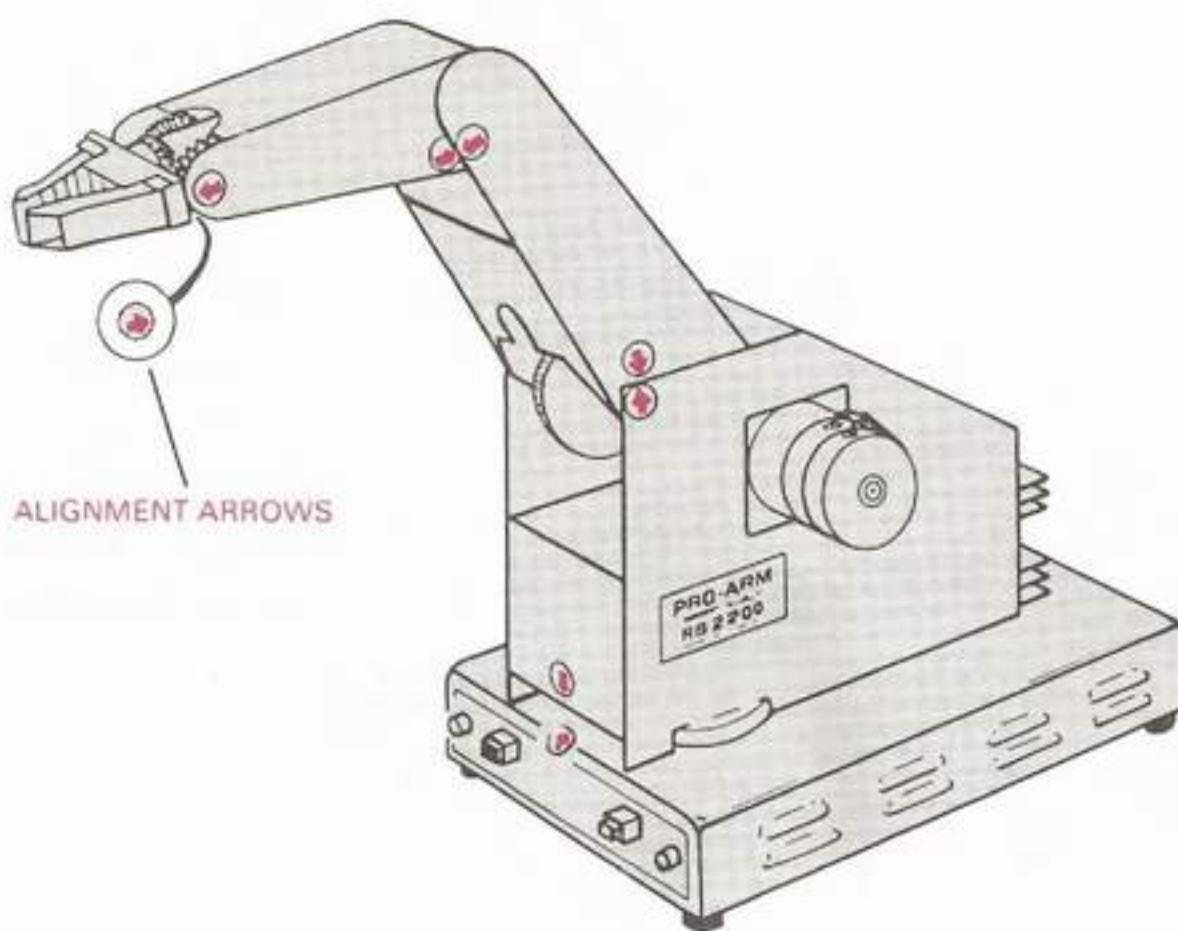
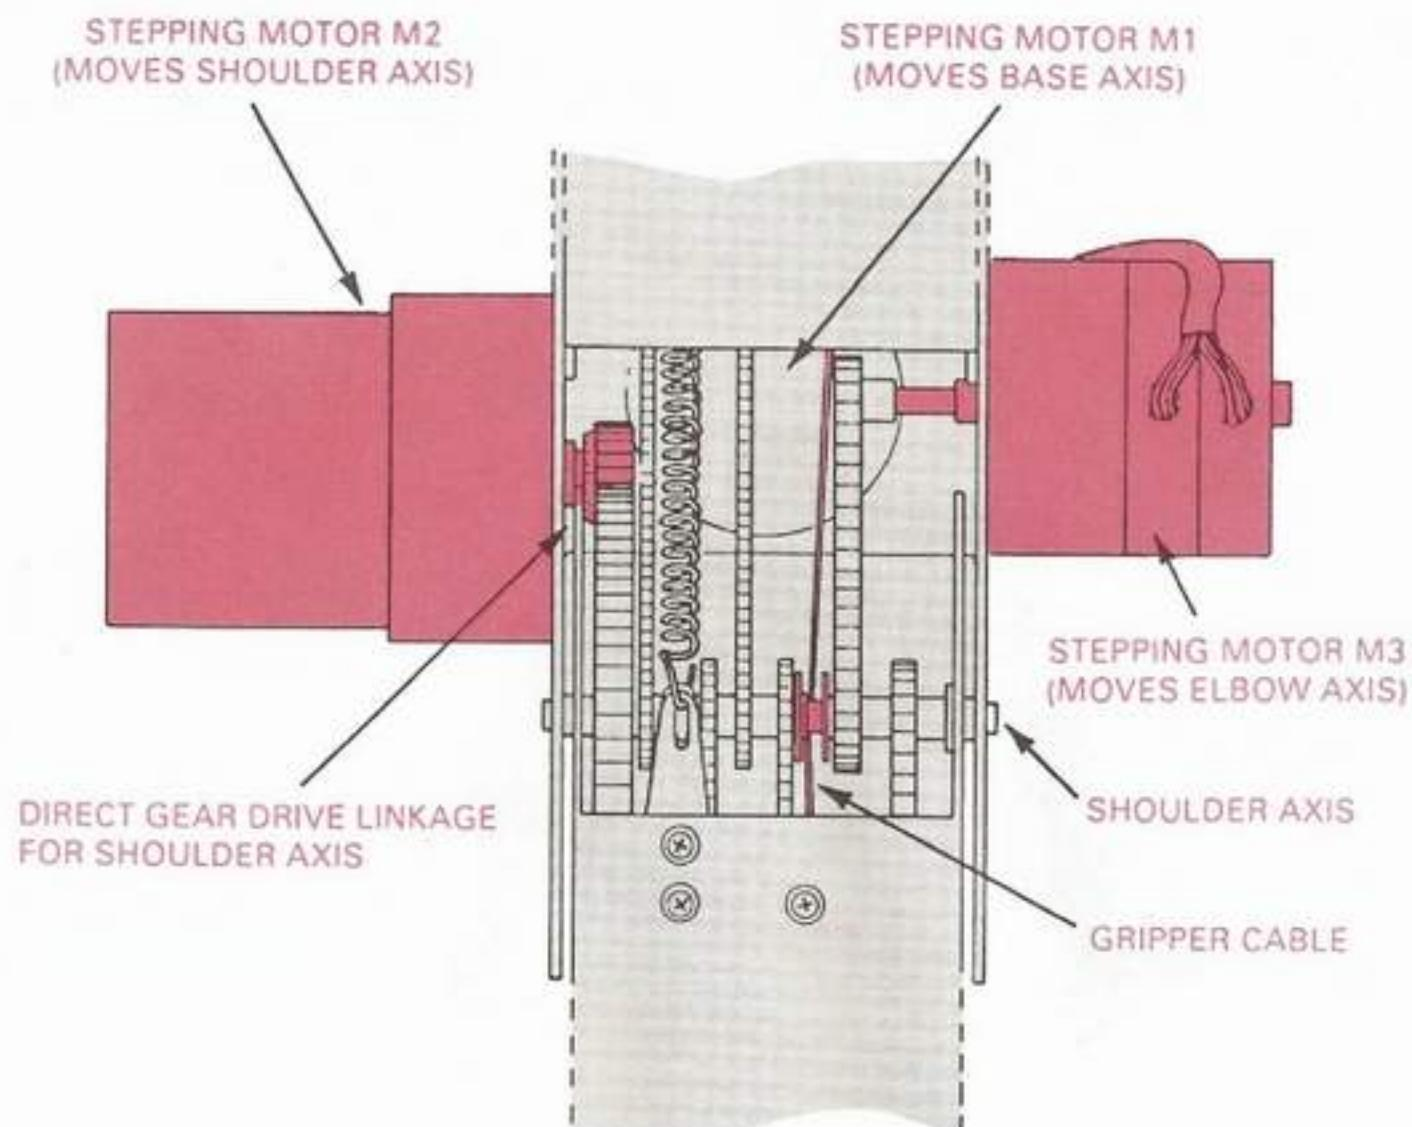
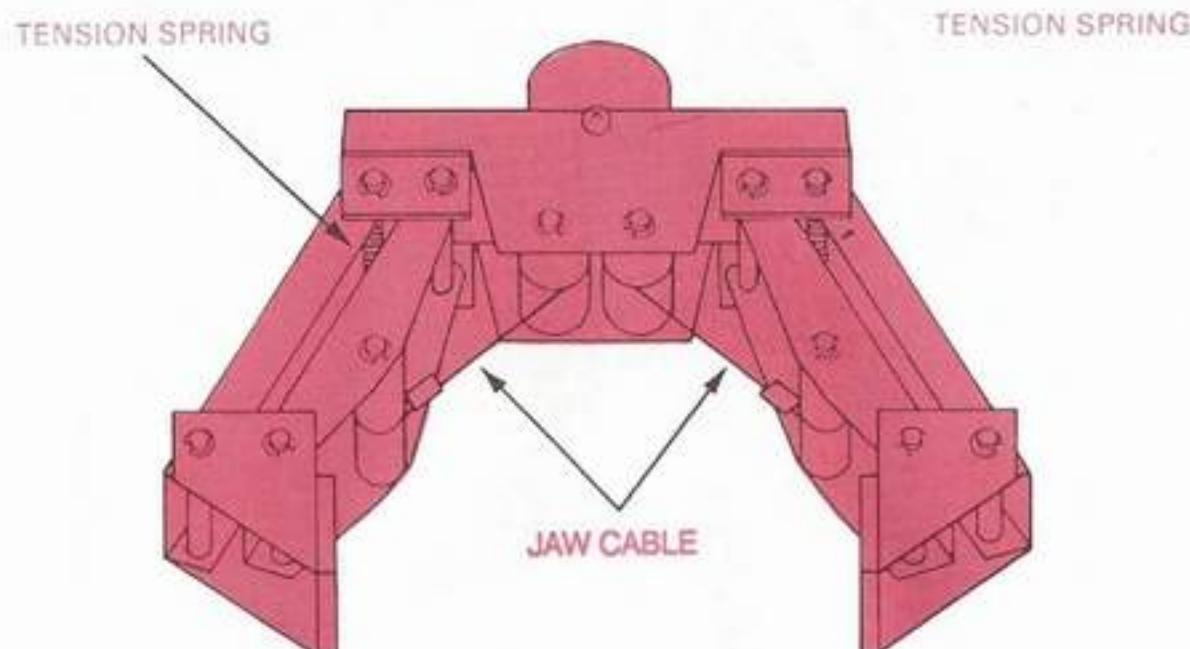

Fig. 17: Aligning the Arrows
Fig. 19: View from Top of Forearm
Fig. 20: The Pro-Arm's Gripper Assembly
Each time before using the Pro-Arm system, you must be sure that the arm is in its **"HOME"** or **"NEST"** position. This means that each axis must be aligned to its **"ZERO"** position. When the arrows on each side of a joint are aligned, as shown in Fig. 17, the axis is in its zero position. However, before you can learn how to zero position the axes, you must first learn how to move each axis.
- c. Compare the positioning of each axis with respect to Fig. 17. Although it is not necessary that the zero-position arrows be perfectly aligned, they should be relatively close to alignment. If not, be sure to check with your instructor before proceeding.
- (1) Depress **RESET** button.
- (2) Depress **TEST** button.
- (3) Release **RESET** button.
- (4) Release **TEST** button.
- e. Look down through the opening between the top of the forearm and the body, as shown in Fig. 19. Stepping motor **M1** should be visible. This motor is responsible for moving the Pro-Arm along its **BASE** axis, but because of its location within the body, its action cannot be directly observed.
i. Locate the large stepping motor on the left side of the Pro-Arm. This is motor M2 and it is used to move the forearm around the SHOULDER axis. Its linkage to the forearm can be observed by again looking down through the opening between the top of the forearm and the body (Fig. 19). This is also direct gear-drive linkage, as in motor M1, since the small gear on the end of the motor shaft drives the large gear fastened to the side of the forearm.
p. Notice that the GRIPPER is controlled by stepping motor M6, which is mounted inside the body behind M4, and hidden from view. The gripper is connected to M6 by the use of a small, steel cable, which is allowed to relax when M6 turns in one direction, opening the gripper. When M6 turns in the opposite direction, the cable is tightened and the gripper is pulled closed. See Fig. 19 and Fig. 20.